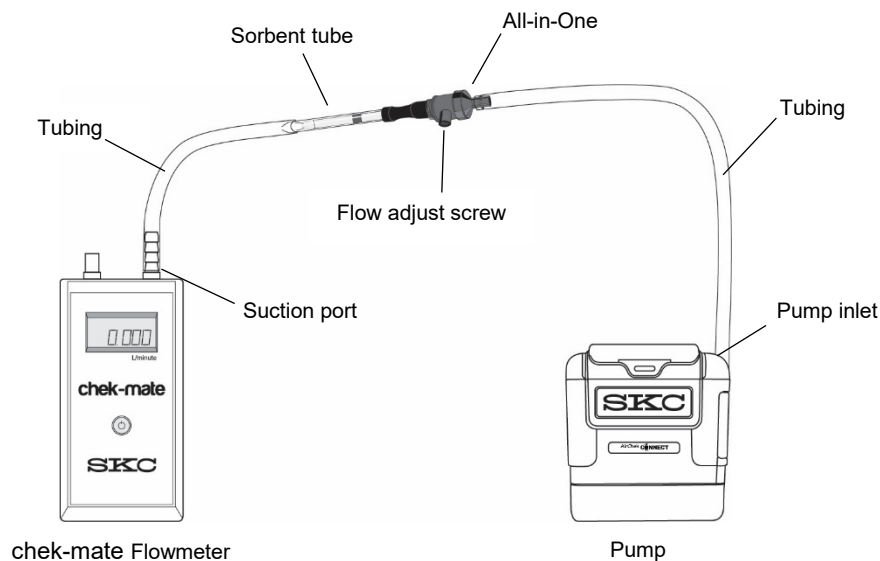

Figure 4. Flow Rate Verification Train (5 to 500 ml/min) for Single Tube — Constant Flow Mode
1. On the tube holder, insert an opened representative sorbent tube (arrow on tube pointing toward the pump) into the rubber sleeve on the port. See Figure 4.
Connect the flowmeter to the single sorbent tube or the first of multiple sorbent tubes as shown in Figures 4 and 5, respectively.